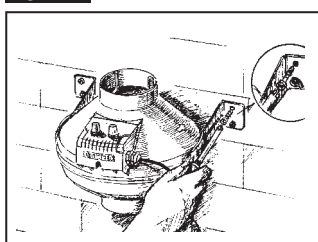

Fig. 12
5. Fix the fan with the screws, fig. 12.